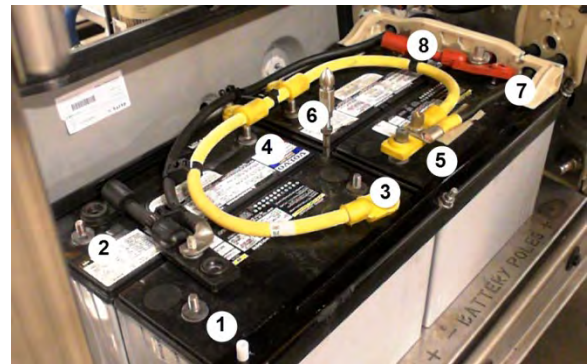

FIGURE 45: DISCONNECT 8 CABLE TERMINALS
3. Using a 9/16 hex socket box, disconnect the eight (8) battery cable terminals (FIGURE 45).